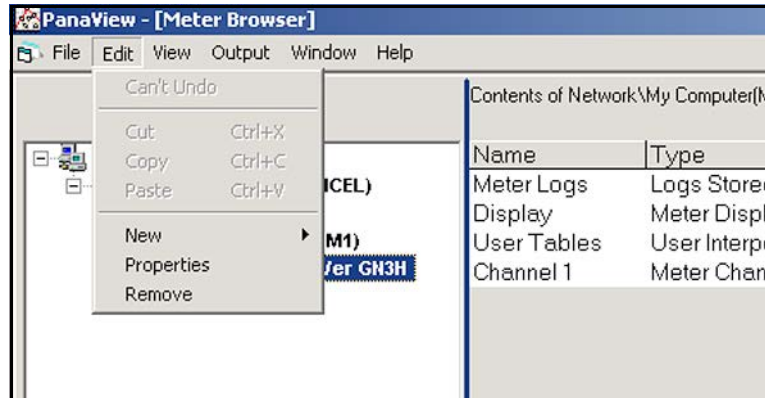
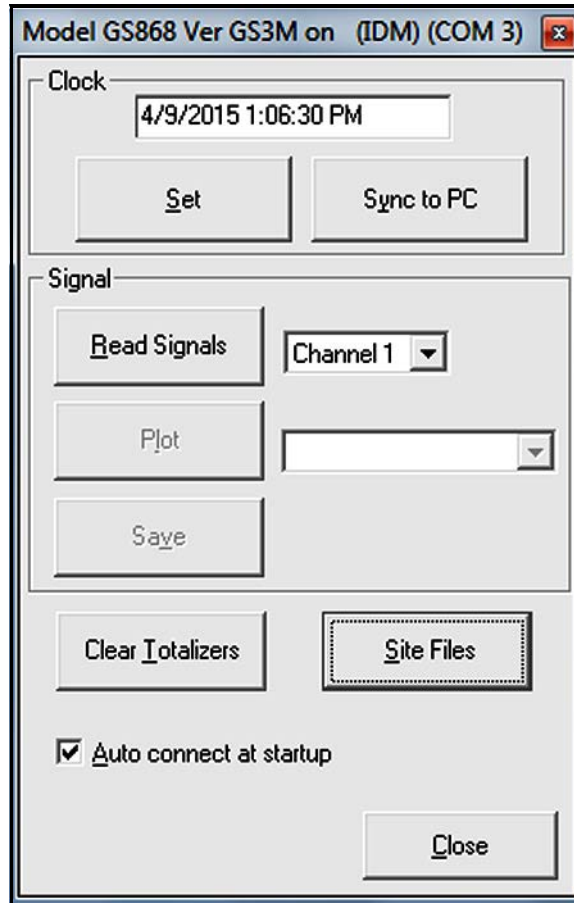

Figure 45: The Edit Menu
Figure 46: Meter Settings
3. With the desired meter highlighted, open the "Edit" menu as shown in Figure 45 below.
1. From the “Edit” menu shown in *Figure 45* on page 33, click on the “Properties” option to open the dialog box shown in *Figure 46* below.
6. Four of the *Meter Communication Parameters* may be edited by selecting one of the alternate choices in the list boxes shown in Figure 46 on page 34. See "Adding the First New Meter" on page 23, for a discussion of these parameters and the available options.
1. From the “Edit” menu shown in *Figure 46 on page 34*, click on the “Remove” option to open the dialog box shown in *Figure 48 below*.